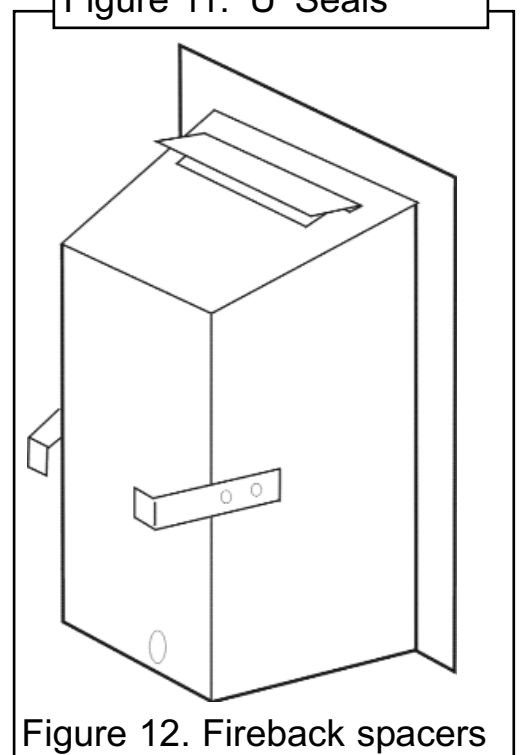

Figure 12. Fireback spacers
4. The appliance is supplied with two fireback spacers. **Do not fit the fireback spacers if the fire is to be installed into a precast or clay flue block system as in section 3.10.3.** These should extend backwards to ensure sufficient clearance from the back of the fireplace. Remove the label and retaining screws from the rear sides of the hotbox. Position the fireback spacer as shown in figure 12. Secure the fireback spacers using the screws removed previously and the two supplied with the fire.